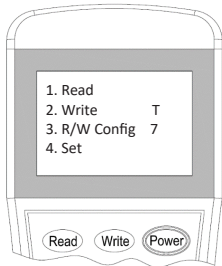

Figure 5
2. Switch-on the programmer, then press button “**Write**” or number “**2**” to enter Write Address mode (Figure 5).